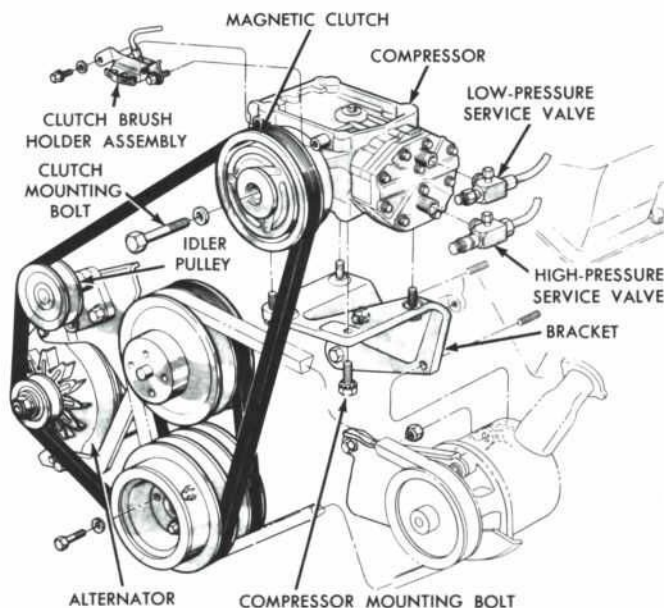

Fig. 40 — Typical Compressor Installation
3. Carefully remove the service valves from the compressor (Fig. 40) and cap them to prevent dirt getting in.